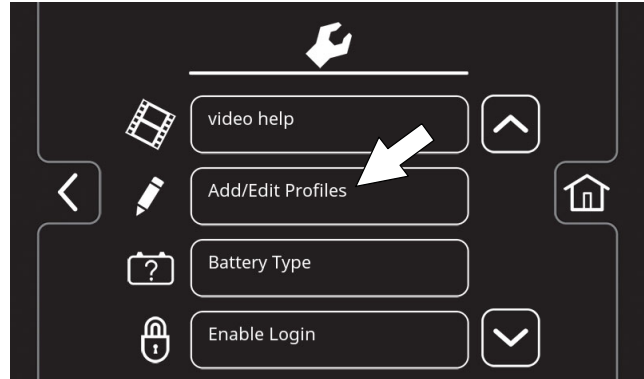

FIG. 177
- Press the Add/Edit Profiles button to enter a new user profile (Figure 177).